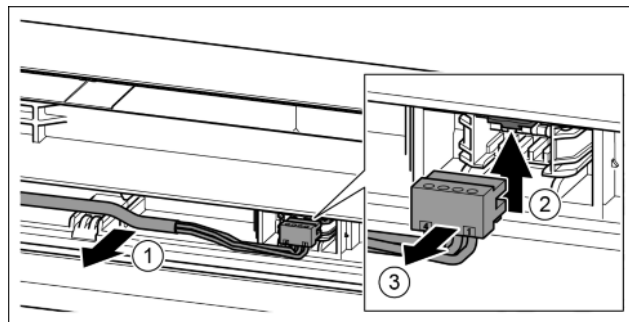

Fig. 18
- Carefully remove the grey cable from the guide in the door. Fig. 18 (1)
- Press the tab upwards. Fig. 18 (2)
- Carefully remove the plug. Fig. 18 (3)